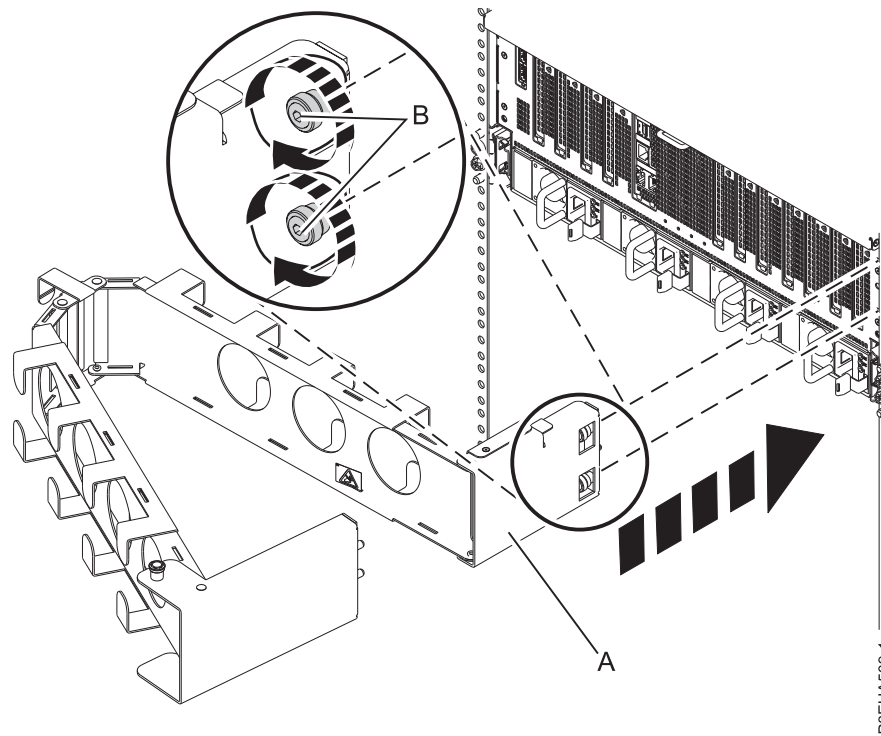

Figure 17. Attaching the inner plate to the system chassis
1. Attach the inner plate (**A**) to the system chassis by hand-tightening the two captive screws (**B**) through the threaded holes on the chassis, as shown in Figure 17 on page 17. Use the T25 hex tool that was included with your system to tighten the bolts further.